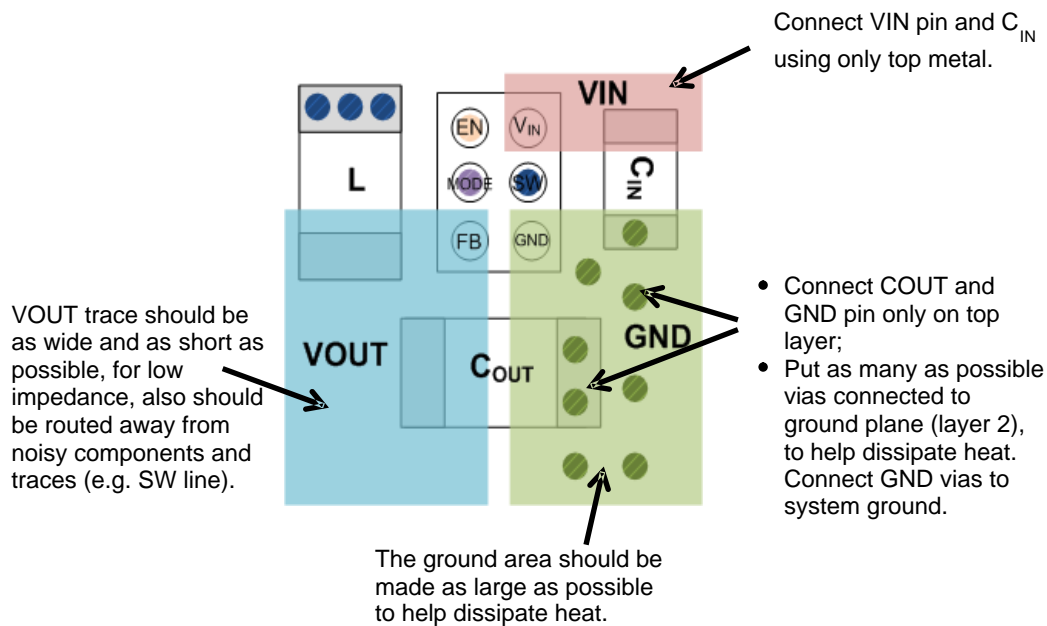

Figure 26. Top Layer
1. The input capacitor ( $C_{IN}$ ) should be connected as close as possible to the VIN and GND pins. Connect to VIN and GND using only top metal. Do not route through vias (*see Figure 26.*)